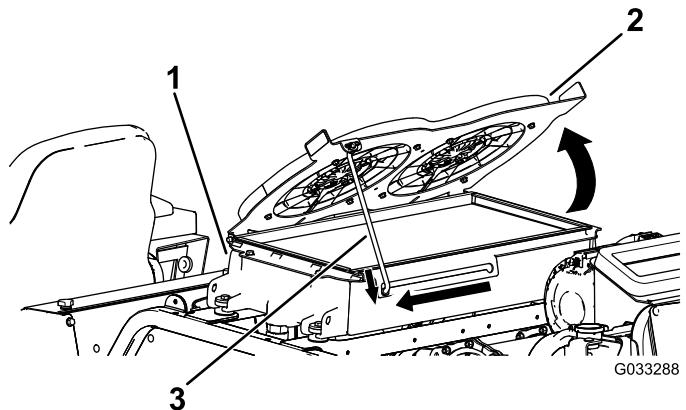

Figure 109
2. Pivot the hydraulic-cooling fans upward and lock the prop rod into the notch (Figure 109).